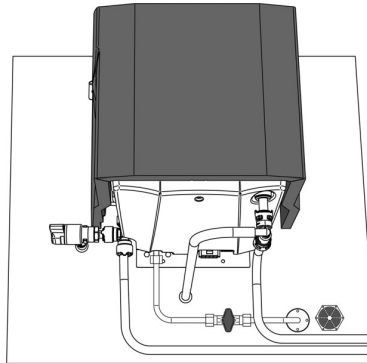

Fig. 27 Completed installation - Manufacturer version
Step 13 Completed Installation (see Fig. 27)